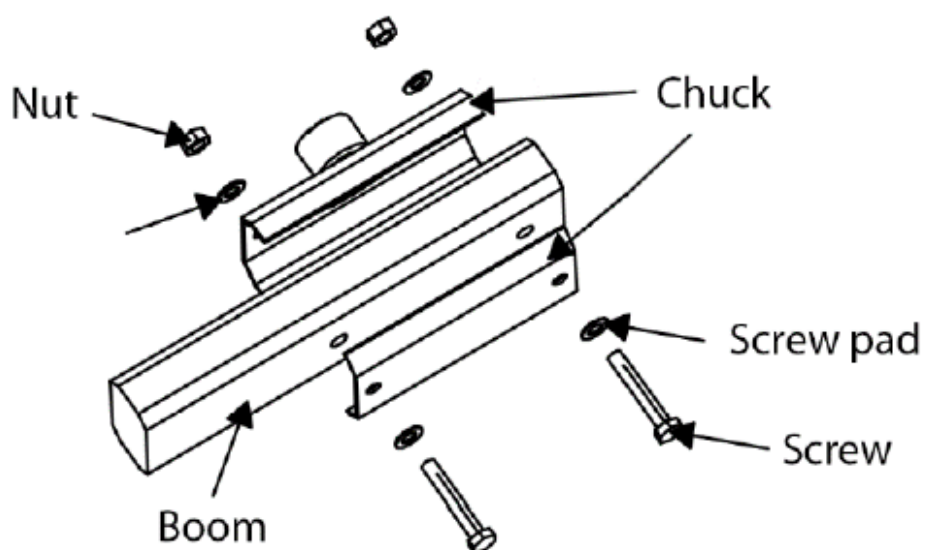

Figure 2 Installing the Boom to the Chassis
- Figure 1 Connect the main boom with vice together by 2 screws. Install the boom to the chassis (the frame), as shown in Figure 2.